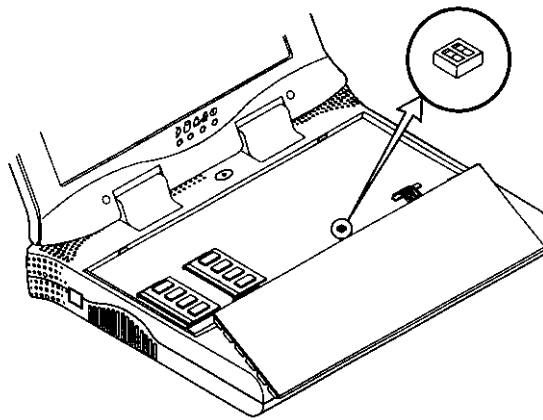

Figure 2-6.2
- Carefully lift the keyboard assembly out so that the mainboard is exposed. Employ the 2-pole DIP Switch to set the configuration (Figure 2-6.2)